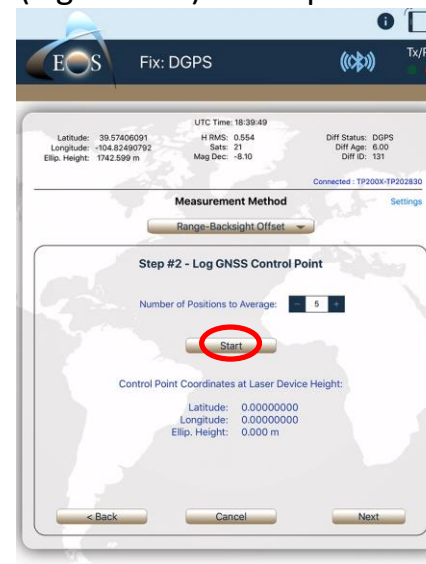

Figure 11B
- 11B. **Step #2:** Occupy the Control Point, confirm the Number of Positions to Average is correct, tap **Start** (Figure 11B) and when the GPS data is recorded, tap **Next**